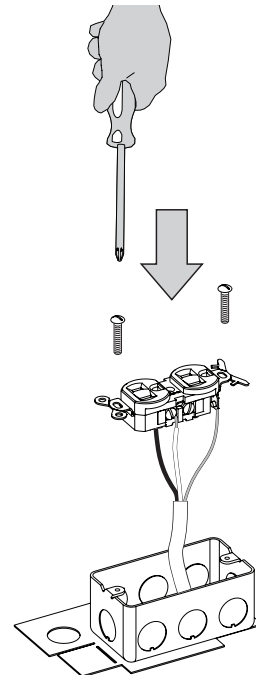

Figure 30
5. Attach receptacle to junction box with screws provided. **See Figure 30.**